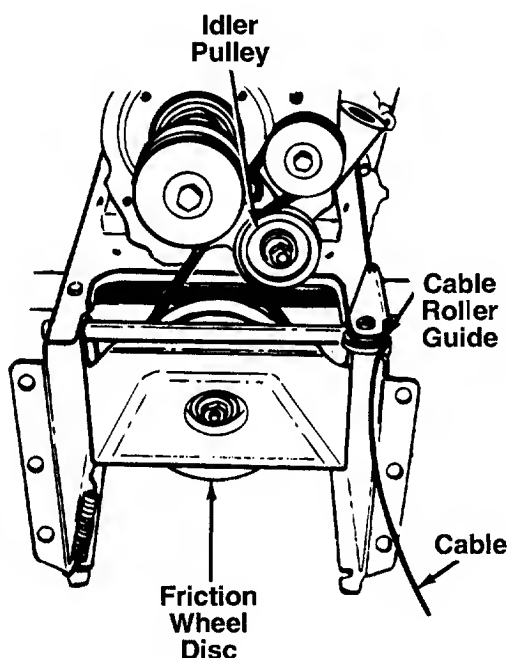

FIGURE 22.
- If a replacement drive belt is needed, follow previous instructions. Pull idler pulley up and lift belt off friction wheel disc. See figure 22. Reassemble in reverse order.
**NOTE:** When reassembling the two halves of the unit, the auger drive cable must be routed through the cable roller guides as shown in figure 22.